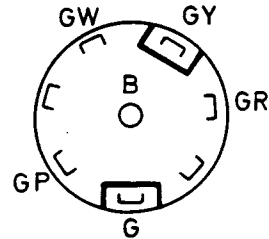

Fig O5.34
- (2) Refer to Fig O5.34. Reconnect the electrical leads to the periphery of the switch.
- (3) Fit the switch into the panel and secure with the wave washer and lock ring.
- (4) Fit the hazard warning switch bulb and screw on the knob.
- (5) Replace the panel and secure with the self tapping screws.
- (6) Reconnect the battery.